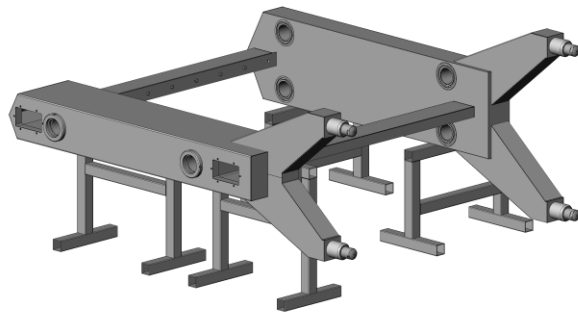

Figure 6-5
6. Using a forklift truck, carefully position the end support assembly at the end of the rails as shown in figure 6-5. It will be necessary to remove the upper and lower covers on the end support to gain access to the rail bolts. Install the rail bolts and washers to attach the end support to the rails.